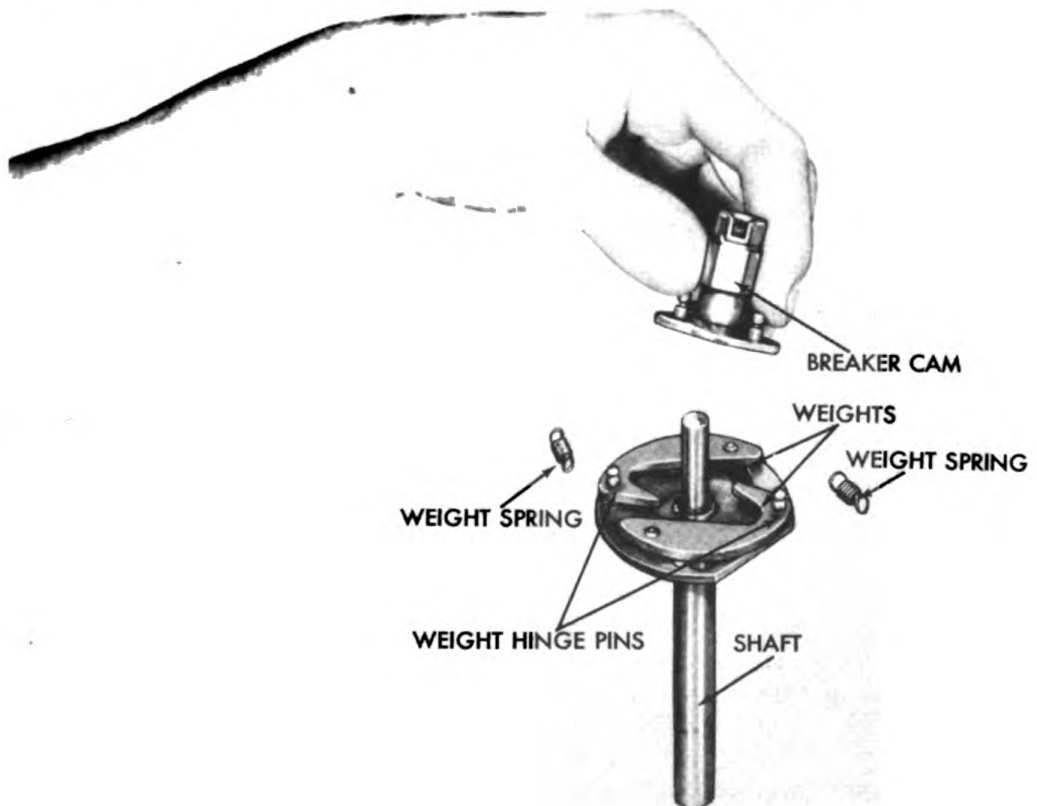

Figure 273. Removing Distributor Breaker Shaft.
- f. Detach breaker plate by removing the two cap spring attaching screws, lockwashers, cap spring supports and cap spring. Removing breaker plate attaching screw, lockwasher and breaker plate. Figure 273.